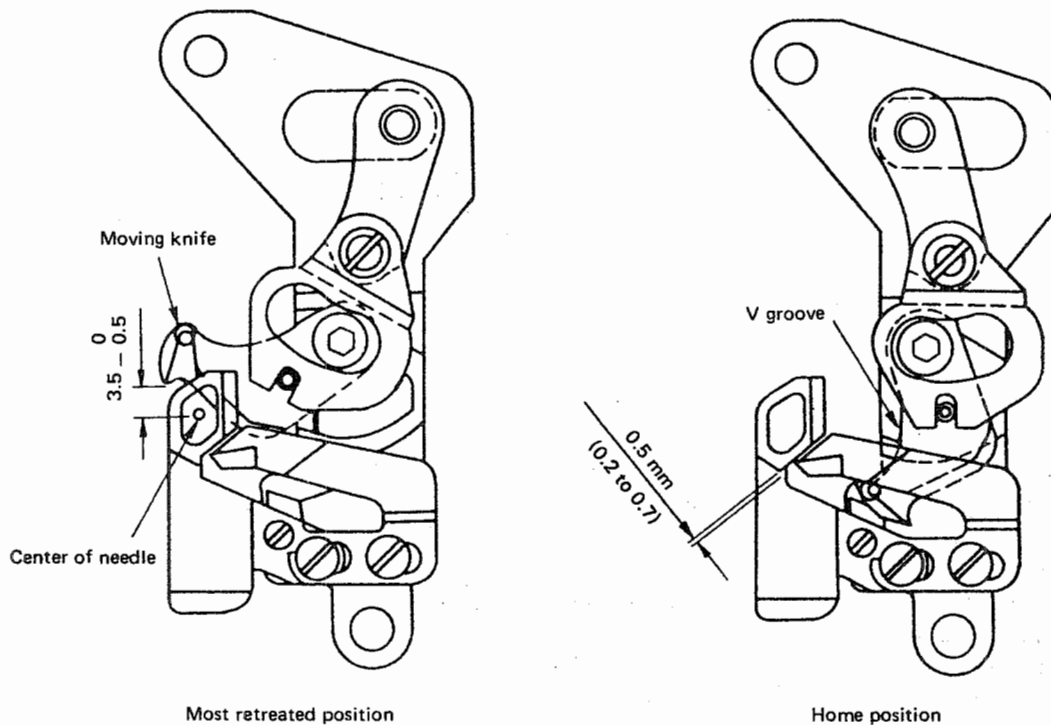
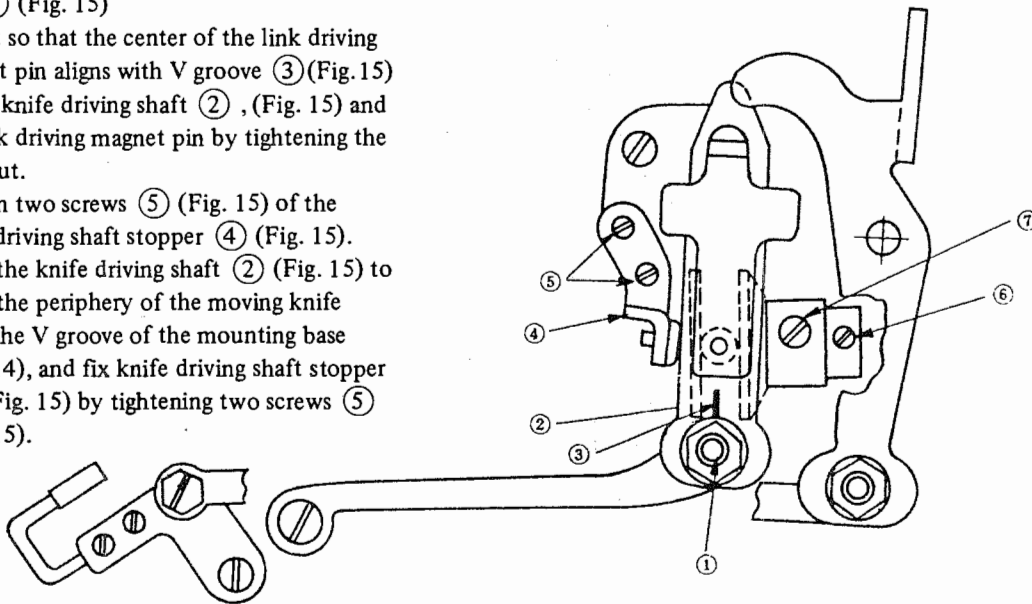

Fig. 14
Fig. 15
The position of the moving knife is adjusted by changing the lateral position of link driving magnet pin ① (Fig. 15) while the machine is at rest.
- ① Loosen the lock nut of link driving magnet pin ① (Fig. 15)
- ② Move the link driving magnet pin to the right or left to make the V groove (Fig. 14) meet the periphery of the moving knife, referring to the home position shown in Fig. 14.
- ③ Retighten the lock nut of the link driving magnet pin when the proper position of the moving knife has been obtained. As the link driving magnet pin is moved to the right, the retreat of the moving knife increases. As it is moved to the left, the retreat of the moving knife decreases.
- ① Loosen adjusting nut of link driving magnet pin ① (Fig. 15)
- ② Adjust so that the center of the link driving magnet pin aligns with V groove ③ (Fig. 15) of the knife driving shaft ②, (Fig. 15) and fix link driving magnet pin by tightening the lock nut.
- ③ Loosen two screws ⑤ (Fig. 15) of the knife driving shaft stopper ④ (Fig. 15).
- ④ Move the knife driving shaft ② (Fig. 15) to make the periphery of the moving knife meet the V groove of the mounting base (Fig. 14), and fix knife driving shaft stopper ④ (Fig. 15) by tightening two screws ⑤ (Fig. 15).
- ⑤ Loosen the two screws of thread trimmer cam ⑦ (Fig. 15) and cam collar ⑥ (Fig. 15).
- ⑦ Manually turn the cam until screw No. 2 ⑦ (Fig. 15) faces toward you. Then press the thread take-up picker to the right.
- ⑧ Move the cam to the right or left to engage the cam with the cam roller.
- ⑨ With the cam engaged with the cam roller, turn the cam in the direction of the arrow toward you) until it stops, while lightly pulling the cam to the right.
- ⑩ Tighten screw No. 2 ⑦ (Fig. 15) of the cam for preliminary installation.
- ⑪ Then confirm:
- ⑫ Securely tighten the two screws of the cam.
- ⑬ Press the thrust collar against the cam and fix it by tightening the screw.